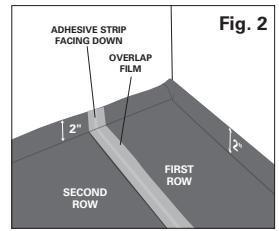
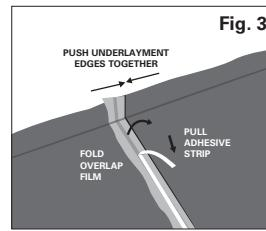

Fig. 2
Fig. 3
- Fold back the overlap flap to expose the peel and stick strip. Remove the white protective cover from the adhesive strip (see Fig. 2), and lay the overlap flap across the first row of underlayment. Press into place (see Fig. 3). Repeat steps 4 and 5 row by row until the entire floor area is covered.